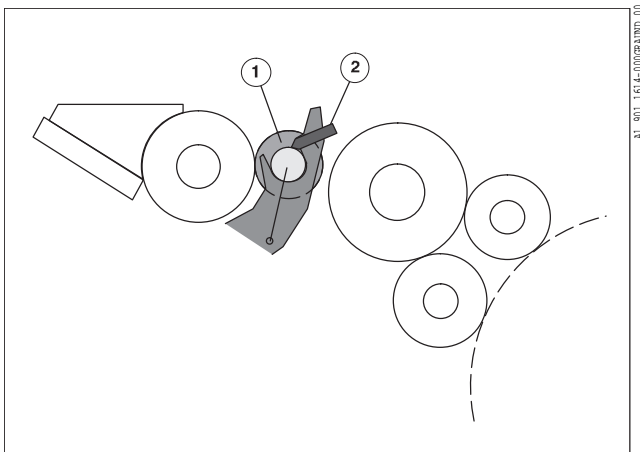

Fig. 33 Ink vibrator
1. Unscrew the screw (Fig. 33/2) in the bearing plate of the ink vibrator on D.S. and O.S.
2. Lift the ink vibrator (Fig. 33/1) out of the bearings on both sides.